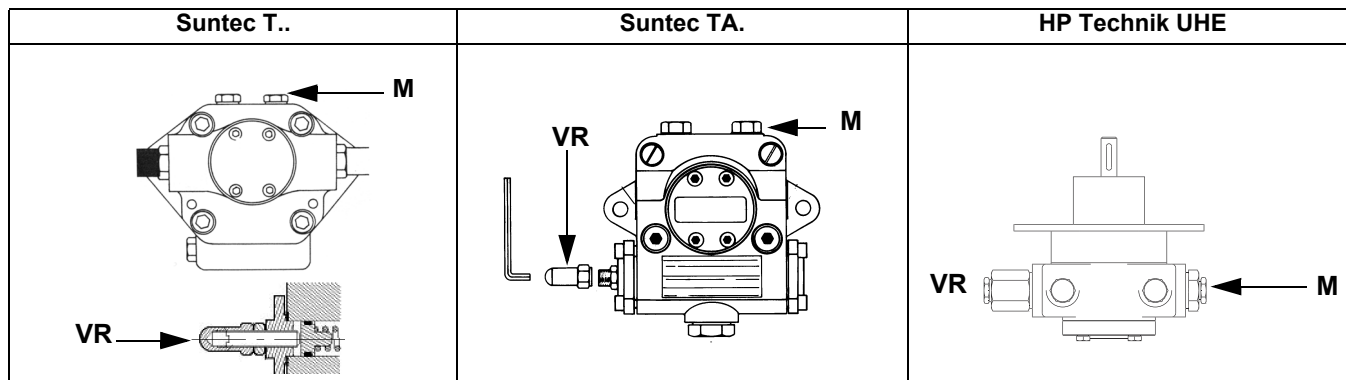
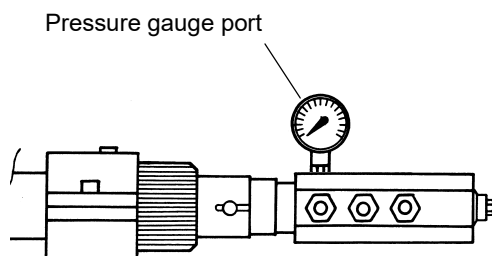

Fig. 5
Fig. 6
- 3 bleed the air from the **M** pressure gauge port (Fig. 5) by loosening the cap without removing it, then release the contactor.
- 5 Only if necessary, adjust the supply pressure as follows (see related paragraph); insert a pressure gauge into the port shown on Fig. 6 and act on the pump adjusting screw **VR** (see Fig. 5) as to get the nozzle pressure at 20bar (Monarch or Fluidics nozzles - see page 45-38).
- 2 Remove screws 1 ÷ 4 using the Allen key n. 3 and remove filter cover 5 in Fig. 5.
3. Screw VD on with 2 M5 screws for each, max. 5 Nm/44 in.-lb., fig. 5/6.